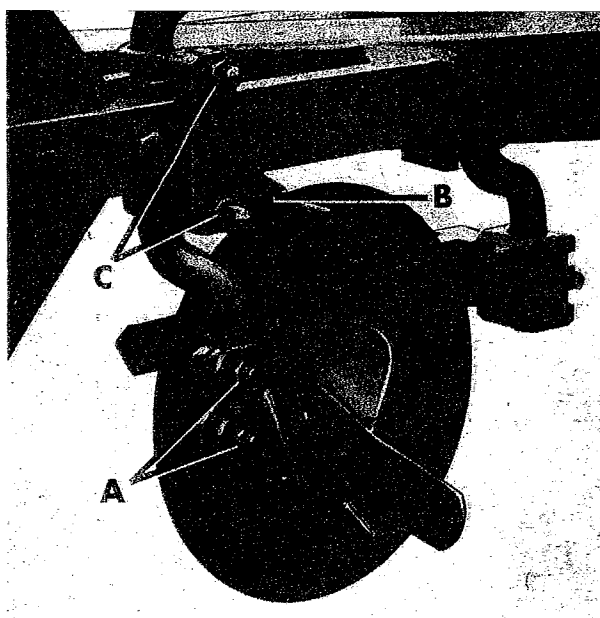

Fig. 4
10. SKIM COULTERS (Fig. 4)
(a) NC and SN (Fig. 4)